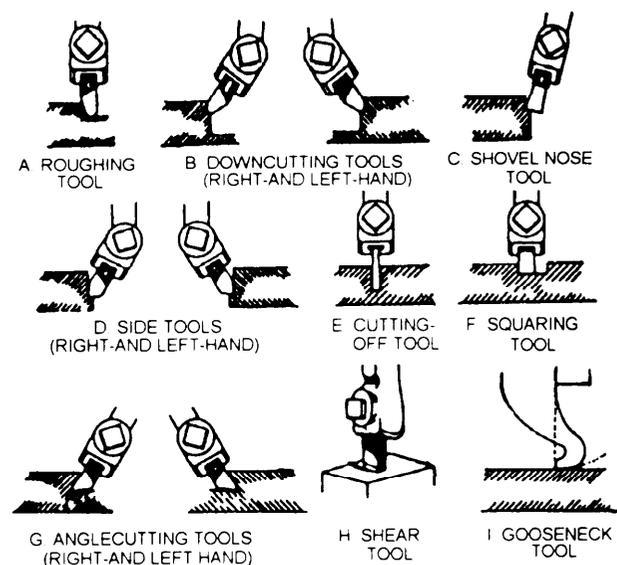

Figure 5-24.—Standard shaper and planer tools.
The shape and use of various standard shaper and planer cutting tools are illustrated in figure 5-24 and described in the following paragraphs:
- **Roughing tool:** This tool (fig. 5-24, view A) is very efficient for general use and is designed to take heavy cuts in cast iron or steel. You will generally grind it for left-hand operation as illustrated. For special applications, you can reverse the angles for right-hand cuts. Do not give this tool any back rake although the side rake may be as much as 20° for soft metals. Do finishing operations on small flat pieces with the roughing tool if a fine feed is used.
• **Downcutting tool:** You may grind and set this tool (fig. 5-24, view B) for either right- or left-hand operation and use it to make vertical cuts on edges, sides, and ends. It is substantially the same as the roughing tool, with the exception of its position in the toolholder.
• **Shovel-nose tool:** You may use this tool (fig. 5-24, view C) for downcutting in either a right- or left-hand direction. It requires a small amount of back rake and the cutting edge should be the widest part of the tool. Make the corners slightly rounded to give them longer life.
• **Side tool:** This tool (fig. 5-24, view D) comes in both right- and left-hand versions required to finish vertical cuts. You also may use these tools to cut or finish small horizontal shoulders to avoid changing tools after you make a vertical cut.
• **Cutting-off tool:** You should give this tool (fig. 5-24, view E) relief on both sides to allow free cutting action as the depth of cut is increased.
• **Squaring tool:** This tool (fig. 5-24, view F) is similar to a cutting-off tool and you can make it in any desired width. Use the squaring tool mostly to finish the bottoms and sides of shoulder cuts, keyways, and grooves.
• **Angle cutting tool:** This tool (fig. 5-24, view G) is adapted for finishing operations and is generally used following a roughing operation made with the downcutting tool. You may grind this tool for right- or left-hand operation.
• **Shear tool:** This tool (fig. 5-24, view H) is used to produce a high finish on steel and should be operated with a fine feed. Grind the cutting edge to form a radius of 3 to 4 inches, twisted to a 20° to 30° angle, and give it a back rake in the form of a small radius.
• **Gooseneck tool:** This tool (fig. 5-24, view I) is used to finish cast iron. You must forge it so the cutting edge is behind the backside of the tool shank. This feature allows the tool to spring away from the work slightly, reducing the tendency to gouge or chatter. Round off the cutting edge at the corners and give it a small amount of back rake.